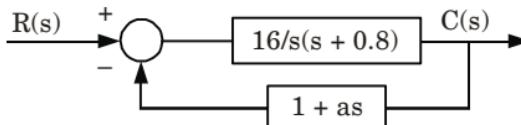

Fig. 4.
- g. Consider the system as shown in Fig. 4. Determine the value of a such that the damping ratio is 0.5.**